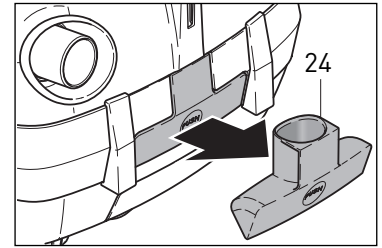
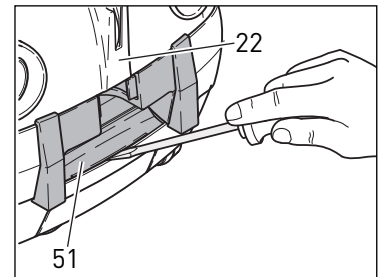
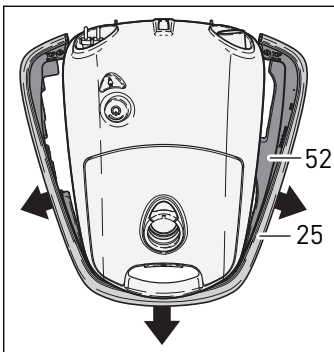

Figure 27
Figure 28
Figure 30
To remove the AIRBELT system (25 & 52), remove the upholstery nozzle from the rear of the machine (figure 27), and lever out the nozzle holder (51) using a slot-head screwdriver (figure 28). The AIRBELT system (25 & 52) can then be pried out of the recess with a screwdriver (figure 29) and removed by carefully sliding the assembly toward the front of the machine (figure 30). Remove the damaged cloth cover (25) from the foam bumper (52).